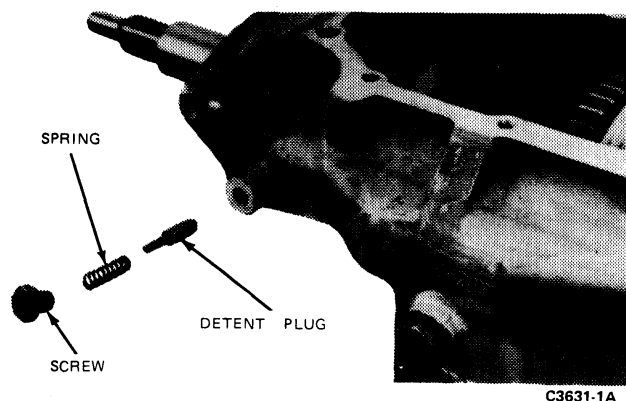

FIG. 5 Detent Removal and Installation
3. Remove the screw, detent spring and detent plug from the case (Fig. 5). A magnetized rod may have to be used to remove spring and detent plug.